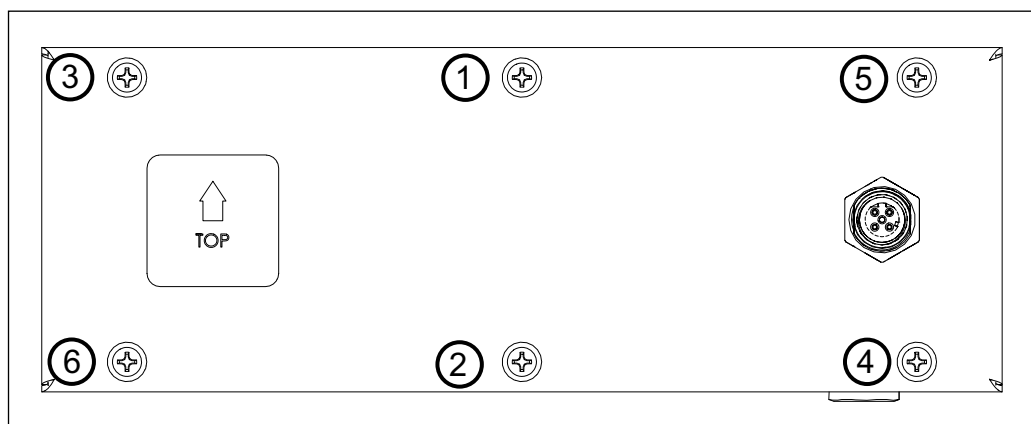

Figure 7. Torque Pattern
16. Torque the screws to 10 in-lb (1.13 Nm) in order using the numbering pattern shown in Figure 7.
17. Torque the screws a second time to 10 in-lb (1.13 Nm) in order using the numbering pattern shown in Figure 7.